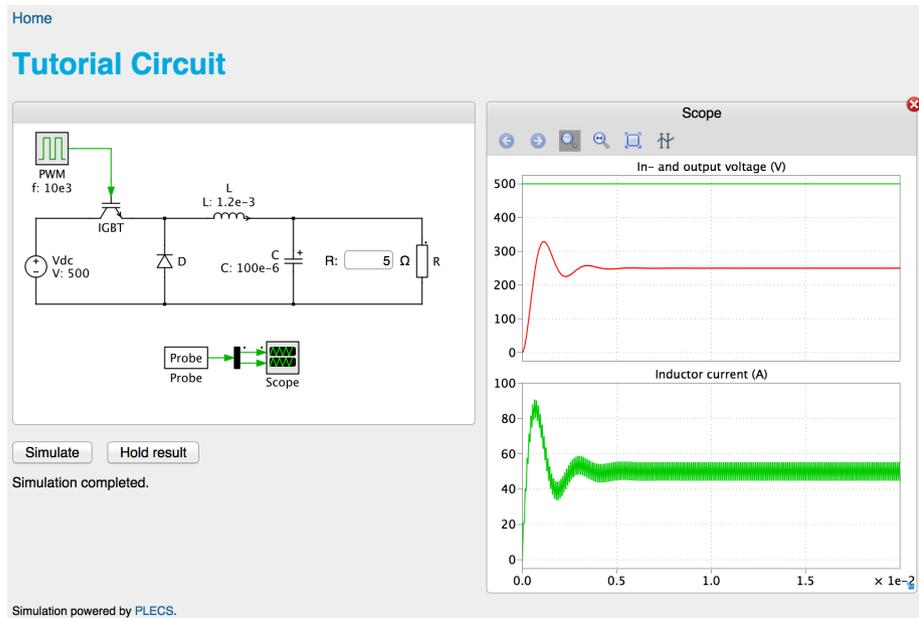

Figure 2.3: Website with PLECS WBS schematic of a buck converter.
7. Now save the JSON file and open the website *localhost/custom* (or *localhost:8888/custom* using MAMP) in a web browser of your choice (preferably a current version of safari, firefox, chrome or opera). Click on the link "Tutorial circuit" and then on the simulation button. After opening the scope the result should look similar to the one given in Fig. 2.3. In case of an error, the WBS frame work has an inbuilt syntax validator that shows in which part of the JSON file a syntax error occurred. You can also check the syntax of your JSON file online at <http://jsonlint.com>.